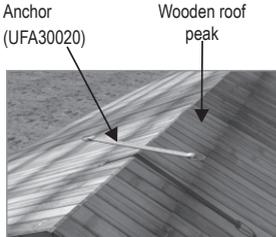

Fig.1- Wooden roof structure on to which anchor is to be installed.
STEP 1: Place the anchor plate to match the surface it will be mounted on, either a roof peak or flat surface. Ref fig.1. The anchor must be placed in such a way that the product label faces upward and butyl flash tape sticks to the roof surface.